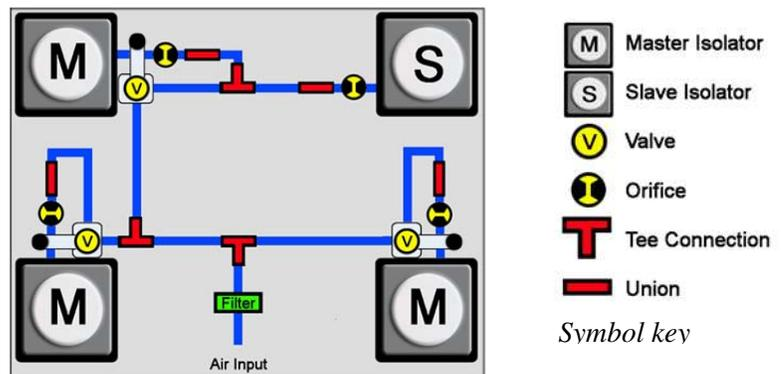

Figure 3 Typical valve schematic for a 4- isolator system
Step 9 Locate *height control valve* (s) mounted on isolator as referenced figures 3 & 4 above.